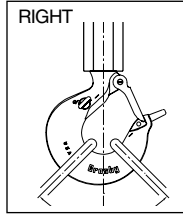

Figure 5
- When placing two (2) sling legs in hook, make sure the angle from the vertical to the outermost leg is not greater than 45 degrees, and the included angle between the legs does not exceed 90 degrees (See Figure 5).